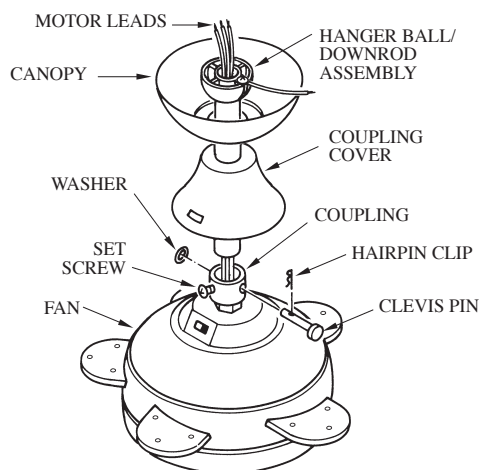

FIG.1
3. Insert the downrod through the center opening in the canopy and route the motor leads through the hanger ball/downrod assembly. Align the clevis pin holes in the downrod with the holes in the motor coupling. The clevis pin must pass through the holes in the motor coupling and the downrod. Place the washer onto the clevis pin and install the hairpin clip making sure to push straight leg of the hairpin clip through the hole near hanger ball to make sure the clevis pin is properly installed (see FIG 1).